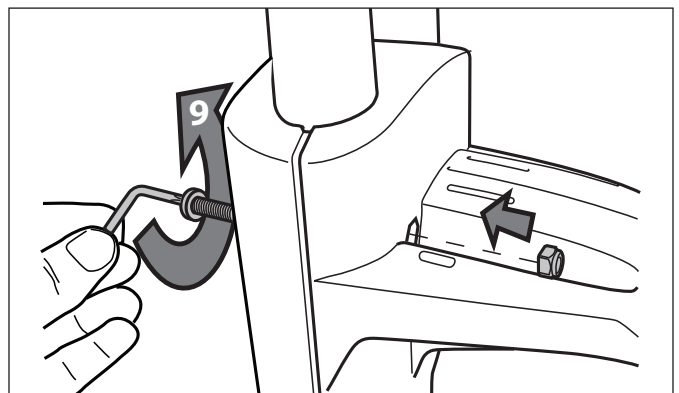
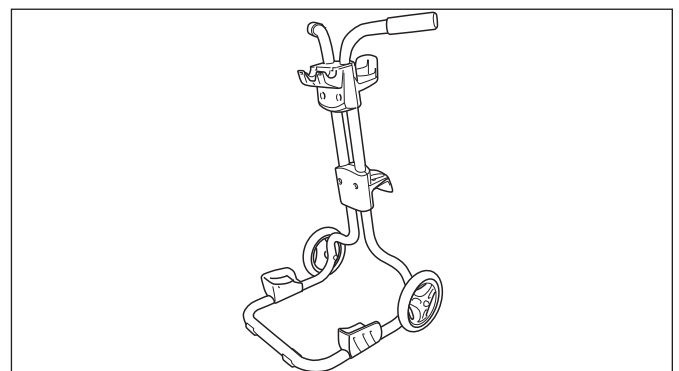

**Figure 6. Position the Bottom Power Cable Hook**
**Figure 7. Secure the Bottom Power Cable Hook**
- Position the bottom power cable hook as shown in Figure 6. Place the cable hook plate opposite the power cable hook. Secure using a screw and tightening with the Torx wrench. Refer to Figure 7.